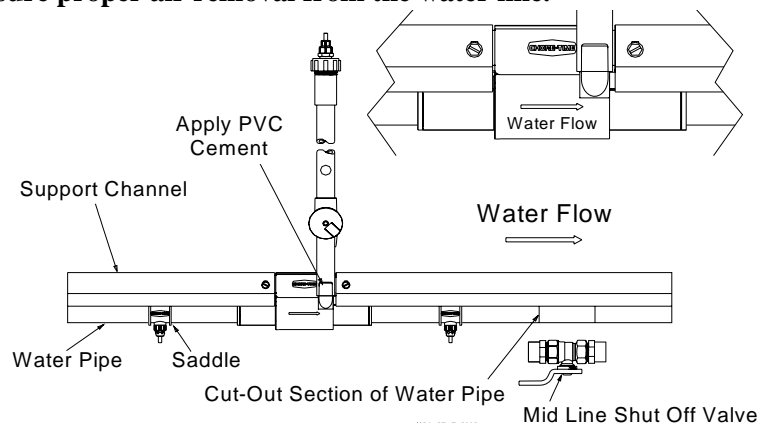

Figure 13. Mid-Line Shut-Off Valve Installation
3. Use PVC pipe cutters to cut a section out of the water pipe. See **Figure 13**. The shut-off valve may be used as a template to determine the required size of the cut.